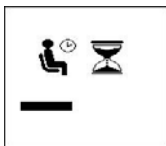

Fig.65
7. Now the user needs to press  key to proceed and the display will show as follows (Figure 65).